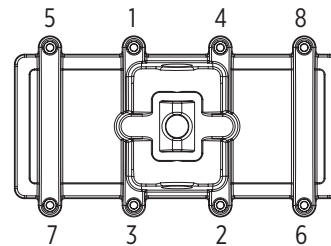

Figure 1
1. Install two (2) M12 expansion bolts in the ceiling/wall. Refer to Figure 1.